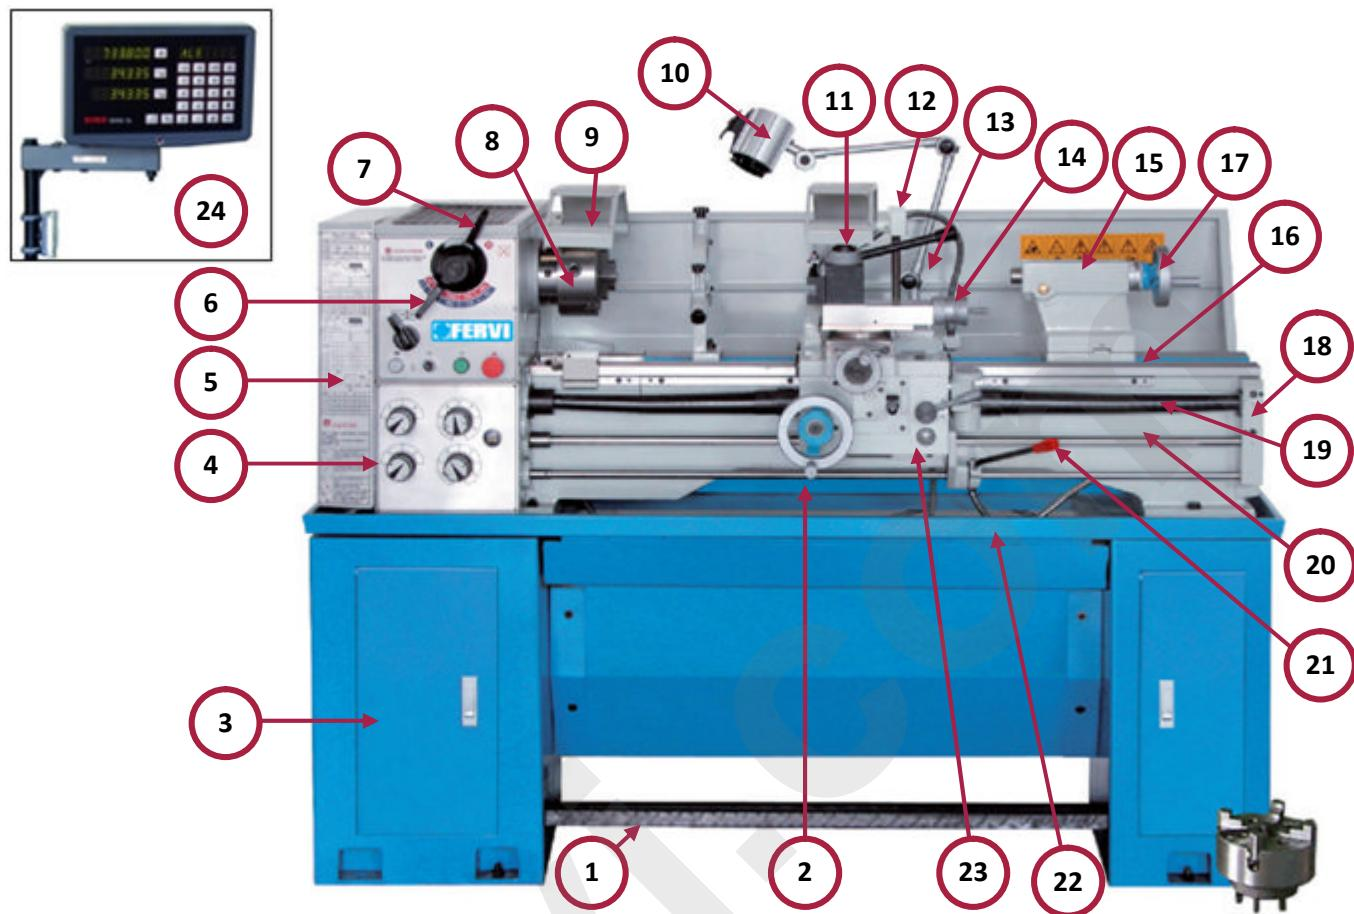

Figure 2 – Main parts of the gear head lathe (Art. T999/230V and T999/400V).
The supporting table (ref. 2 in figure 2) is made of cast iron; the casting has been stabilized to avoid twisting and/or deformation due to the internal stresses in the material. In the upper part there are prismatic guides that ensure the movement and alignment of the drive head with the carriage and the moving head (tailstock). The guides are hardened and ground. Reinforcements ribs have been incorporated that increase rigidity.